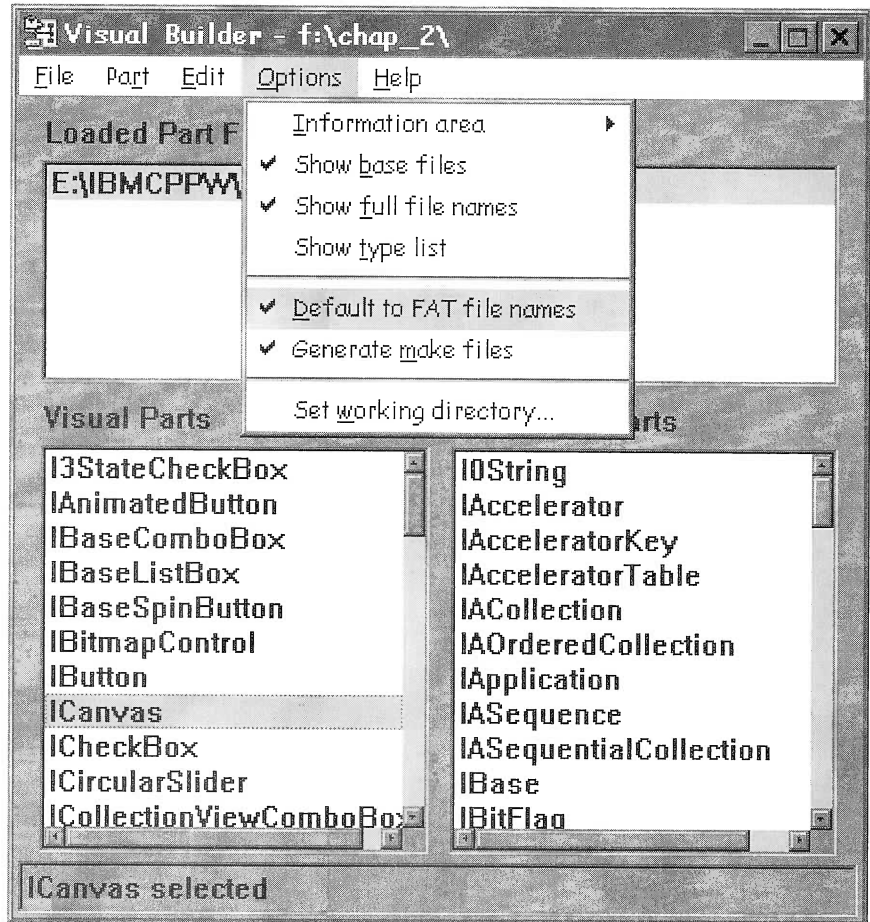

Figure 15: Options
- ☐ Select **Options** on the menu bar and select **Show full file names**. See Figure 15.